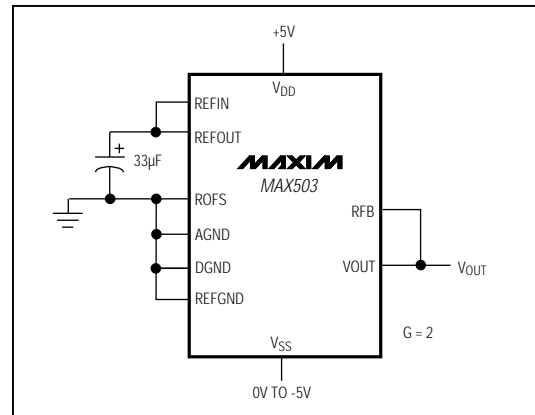

Figure 10. Unipolar Configuration (0V to +4.096V Output)
A 0V to $2V_{REFIN}$ unipolar output range is set up by connecting ROFS to AGND and RFB to VOUT (Figure 10). Table 4 shows the DAC-latch contents vs. VOUT. The MAX503 operates from either single or dual supplies in this mode. In this range, $1LSB = (2)(V_{REFIN})(2^{-10}) = (V_{REFIN})(2^{-9})$.